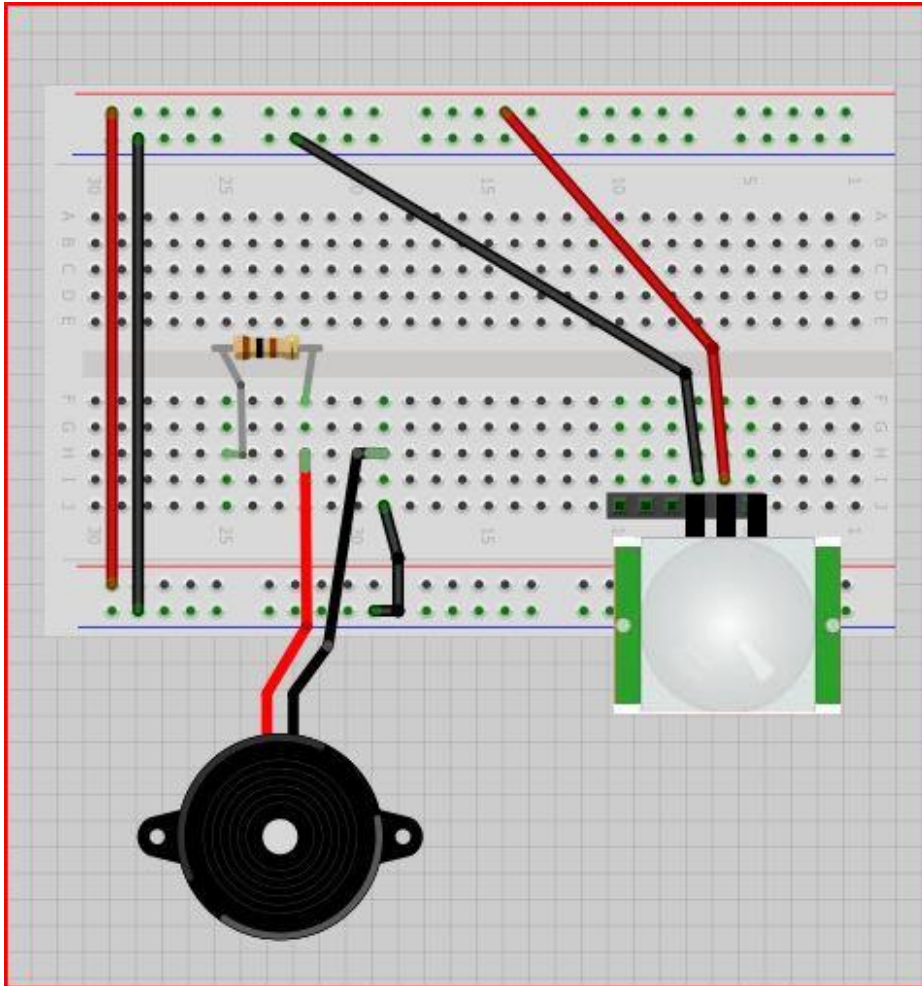

Figure 19-10. Connect the power and ground rail from one side to the other
9. Now, before we forget, let's make sure the power and GND columns on the breadboard are connected so that both sides can provide voltage and ground. Simply run a wire (we used red) from one of the power holes (the hole nearest to the top or bottom of the breadboard is always easiest) to a power hole on the other side of the breadboard. Do the same for the GND (we used a black wire). Insert one end of the wire into a hole on the GND column and the other end to a hole in the GND column on the other side of the breadboard, as shown in Figure 19-10.